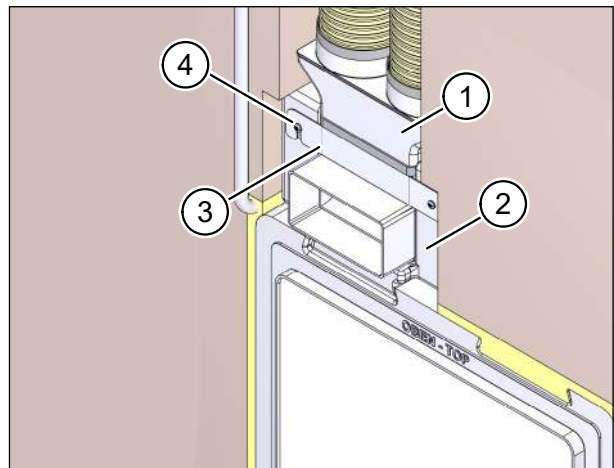

Fig. 29: Inserting flexible pipe connectors
- ▶ Insert the assembled flexible pipe connectors (item 1 in Fig. 29) into the ductwork connection adapter (item 2 in Fig. 29).
- ▶ Push the bar catch (item 3 in Fig. 29) down and carefully tighten the cross-head screws (item 4 in Fig. 29).